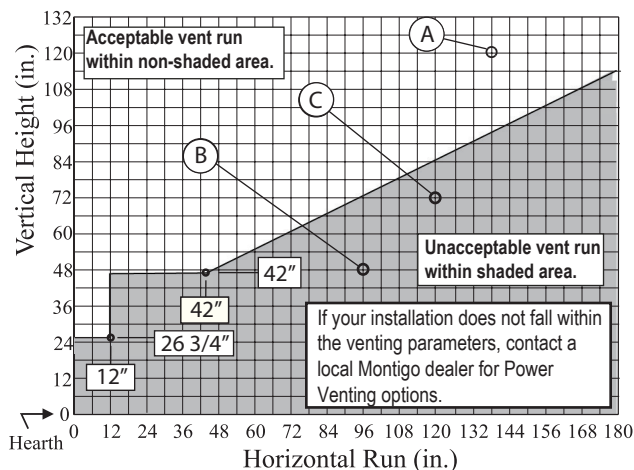

Figure 13. Side Vent Venting Graph for wall mounted terminations.
- Venting runs must fall within the limits set by the venting graphs, see Figure 13.
Measure the vertical height from the fireplace hearth to the centre of the termination and the horizontal run from the fireplace flue collar to the wall flange of the termination. Plot on the Venting Graph Figure 13 with an 'X'.
Figure 13b. Side Vented, wall mounted Multi-elbow termination installation. Installation for L38DF*-ST must have a minimum vertical rise of 42". The vent run must comply with the Venting Graph for Rear vent, wall mounted terminations, Figure 13.